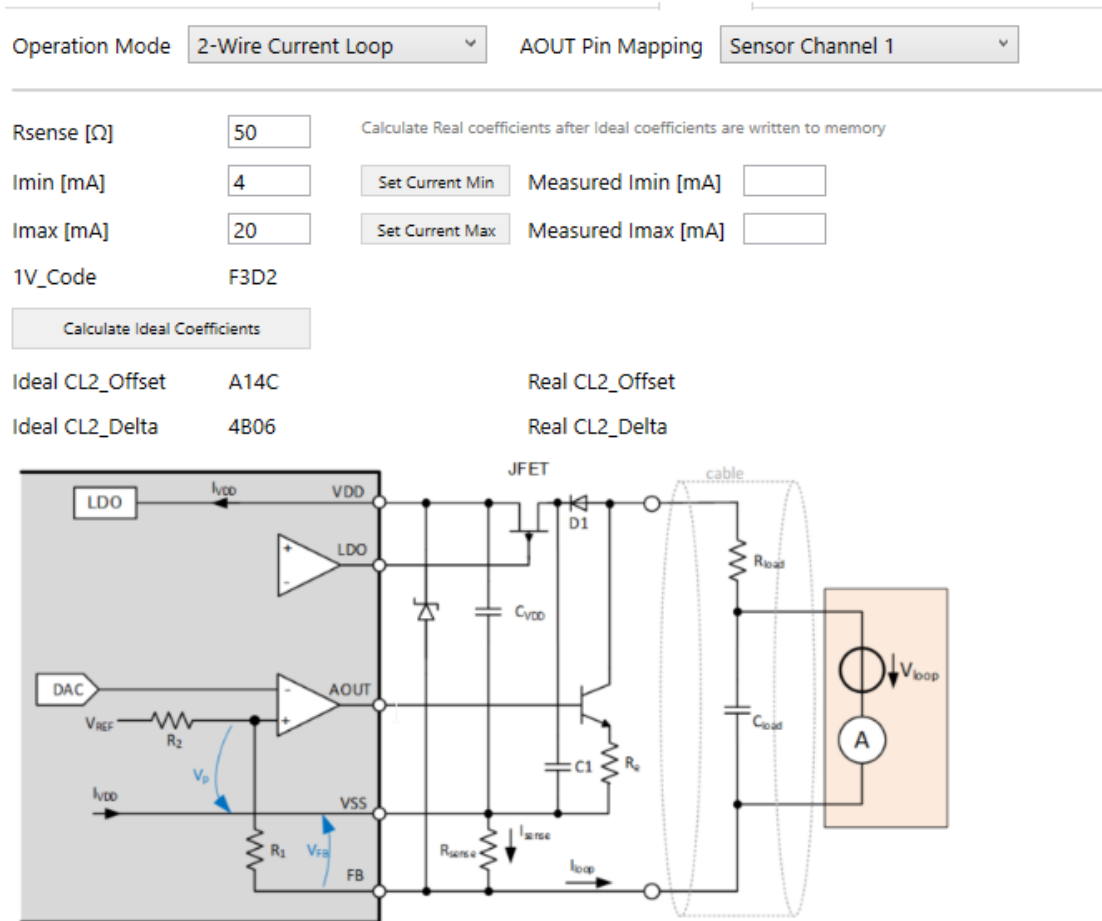

Figure 133. 2-Wire Current Loop Calibration
2. Click the ‘Calculate Ideal Coefficients’ button (see Figure 133).